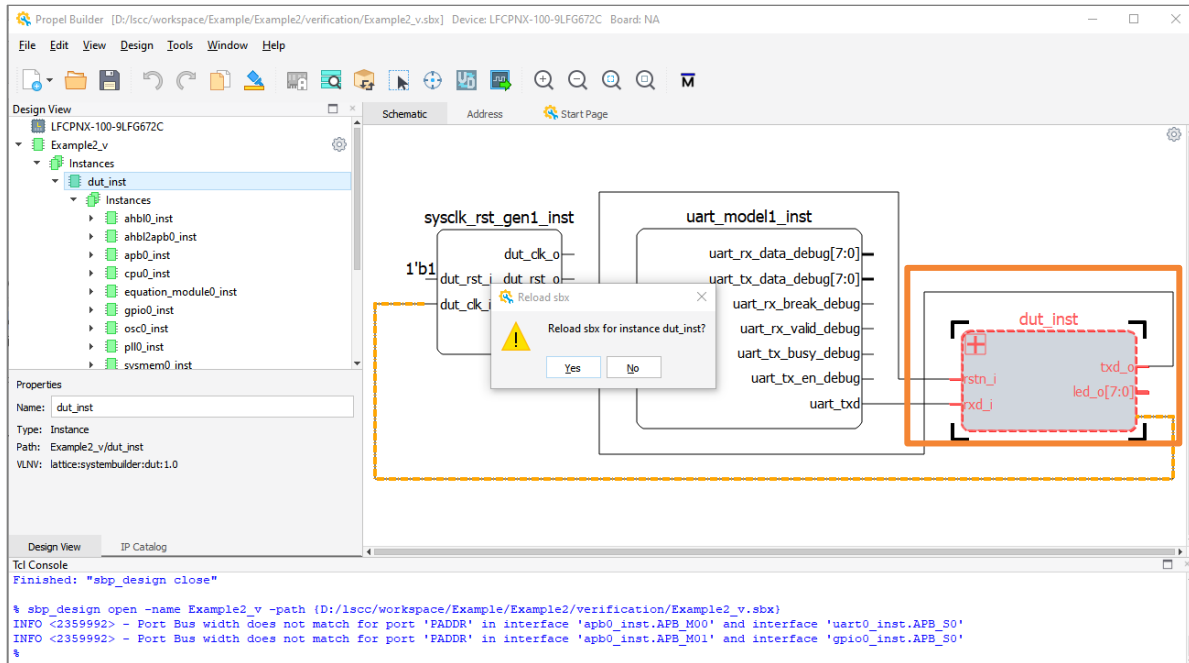

Figure 2.159. Reload dut_inst after Each SoC Project Design Change
- c. **Reload** dut_inst to synchronize the SoC design change to verification project. Double click on dut_inst to do the reload (Figure 2.159).